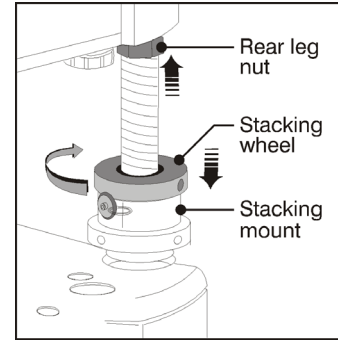

Figure 2-25 Secure All Hardware
- Turn all 3 stacking wheels until they are **firmly secure** against the rest of the stacking mount. See *Figure 2-25*.